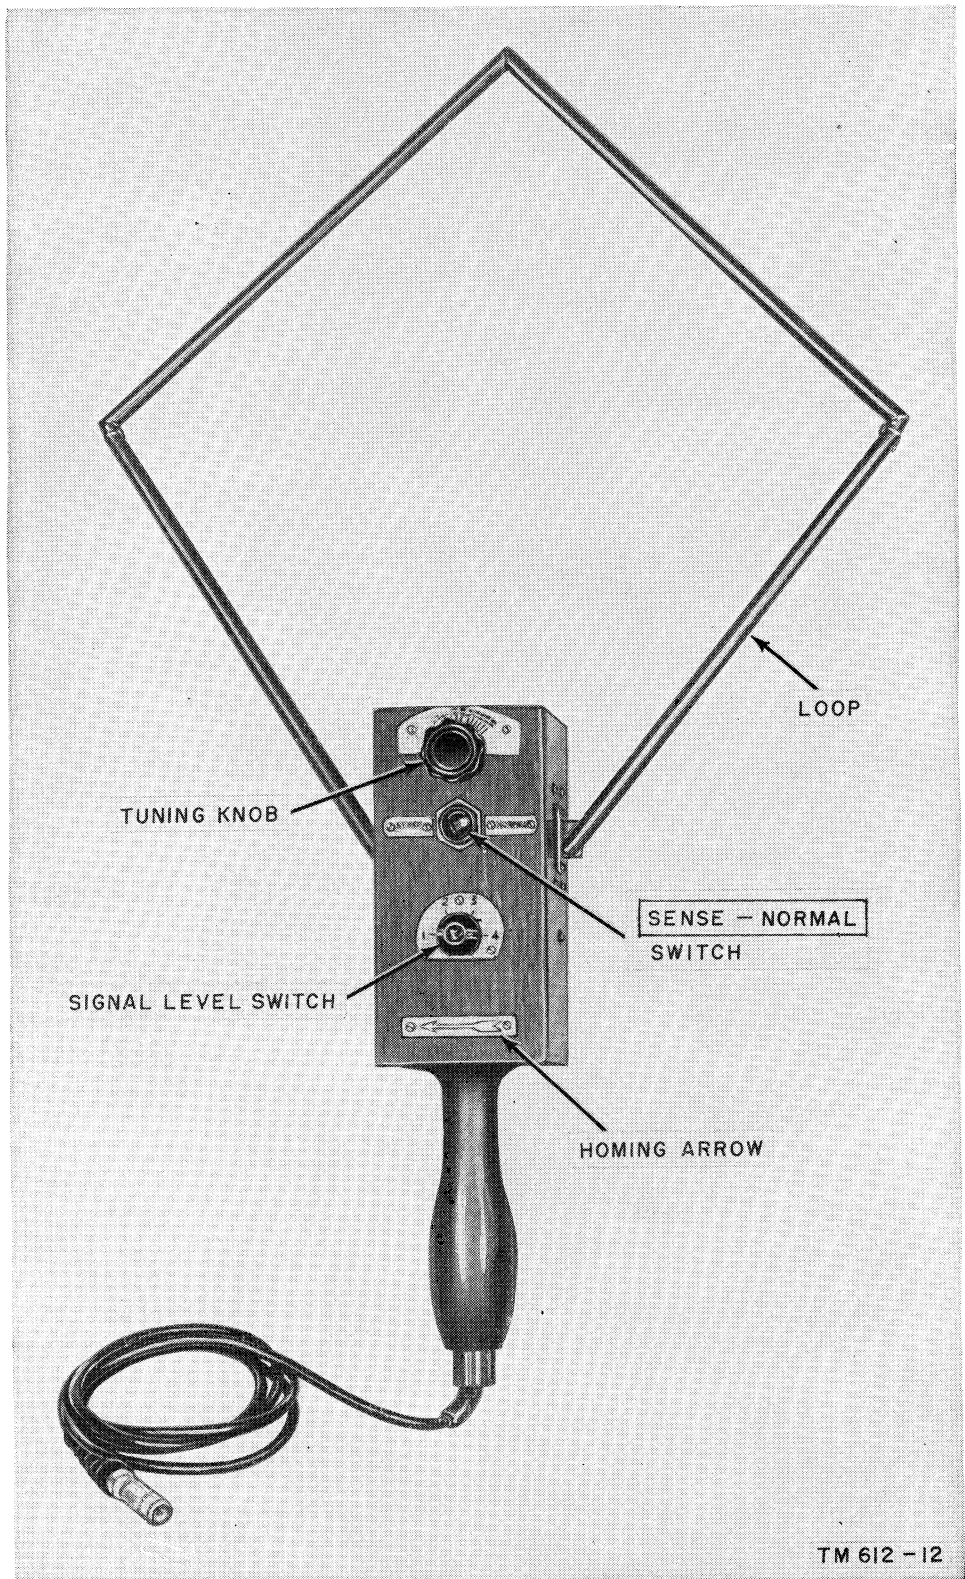

Figure 24. Homing antenna AT-339/PRC or AT-340/PRC.
- (1) Put the radio set in operation as described in paragraph 24. Set the POWER switch on the radio set at REMOTE.
- (2) At the local control unit, set the LOCAL switch at the TEL position and the REMOTE switch at the SET 1 position.
- (3) At the remote control unit, set the SELECTOR switch at the left write-in position.
- (4) Momentarily press the push-to-talk button on the handset at the remote control unit. This turns power on in the radio set. If the radio set does not operate, reverse the leads at L1 and L2 of the remote control unit and again press the push-to-talk button momentarily.
- (5) Press the push-to-talk button of the handset to talk and release to listen.
- (6) To turn off the power at the radio set from the remote control unit, turn the SELECTOR switch to the right write-in position and momentarily press the push-to-talk button on the handset.
b. Set the SENSE-NORMAL switch of the homing antenna at NORMAL (fig. 24). Set the signal level switch at position 1.
c. Set the tuning knob (fig. 24) to the desired operating frequency. (This is an approximate setting.)